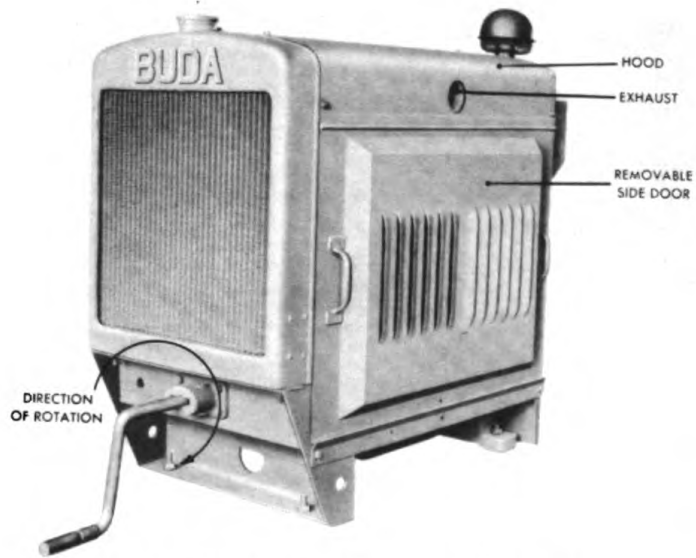

Figure 132. Engine Enclosed in Metal.
The engine head is provided with a tapped $\frac{3}{4}$ " hole, National Coarse threads to permit inserting an eye screw for lifting the engine with a hoist. If you plan to use an assembly stand, remove the bolts (two at front of sill under radiator; two that bolt the flywheel at the rear) figure 132 and lift the engine with a hoist onto the assembly stand. See figure 133.
- a. Remove the two vertical bolts and nuts that tie the engine to the front support. See figure 132.